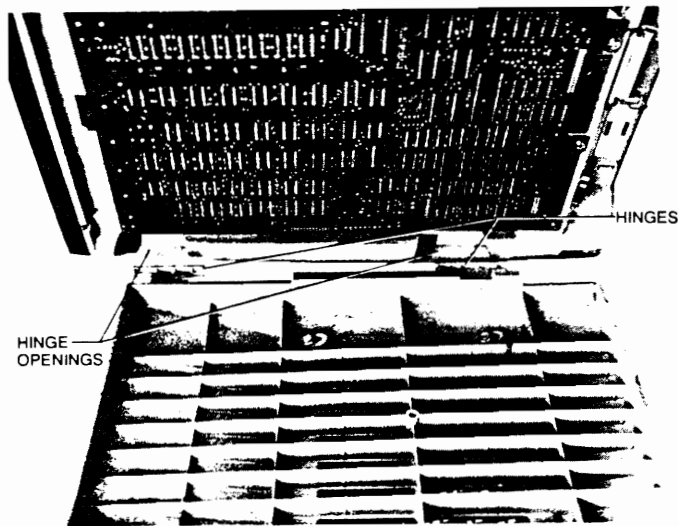

Figure 2-4. Mating the Hinges to the Hinge Openings
1. Hold the mainframe above the support in a tilted position with the left side up, to clear the top prop, and the right side down so that the fixed hinges on the right side of the support enter the hinge openings (figure 2-4) along the right lower edge of the mainframe. Then slide the mainframe rearward past the detents approximately 1/4-inch to lock the hinges.